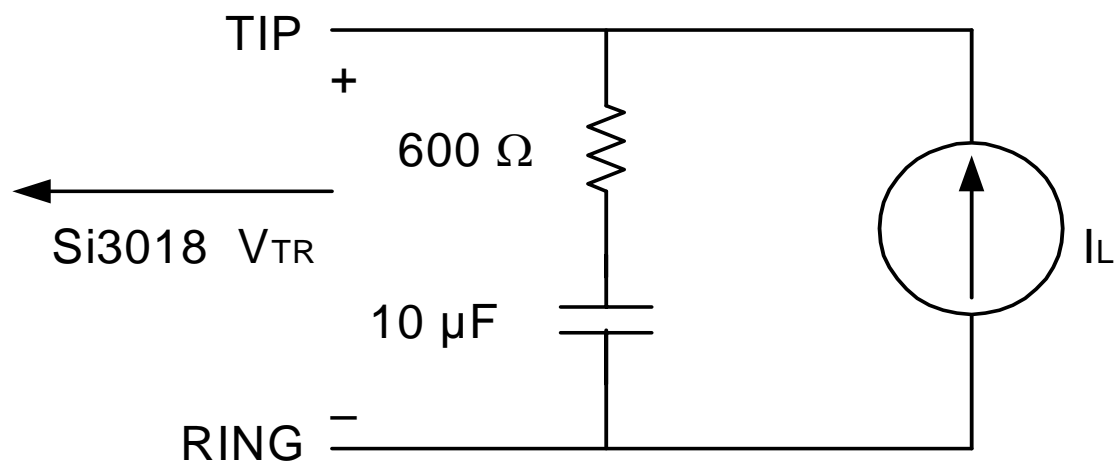

Figure 10. Phone Line Termination Circuit
&T3	Initiate ITU-T V.54 (ANALOO) test. Modem mode set by &H. Test loop is through the DSP (Si2493/57/34/15/04), DAA interface section (Si2493/57/34/15/04), ISOCap™ interface (Si3018/10), and analog hybrid circuit (Si3018/10). ISModem echoes data from TX pin (Register 0 in parallel mode) back to RX pin (Register 0 in parallel mode). Phone line termination required as in Figure 10. In order to test only the ISOCap link operation, the hybrid and AFE codec can be removed from the test loop by setting U62[1] (DL) = 1.